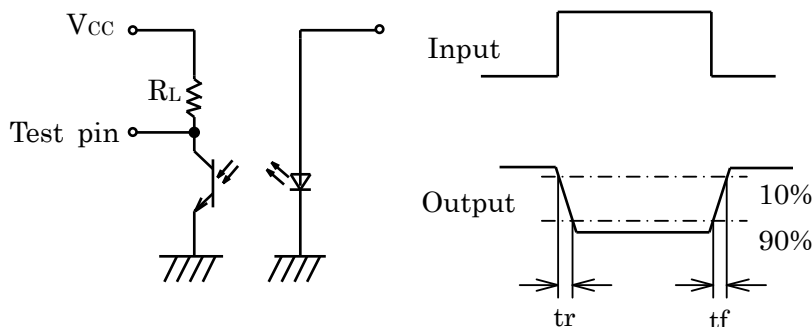

Fig.1 Forward current vs. ambient temperature
*1 The derating factors of absolute maximum ratings due to ambient temperature are shown in Fig. 1, 2, 3.
<Fig 1>
200 products are put in the tray. <Fig.1>